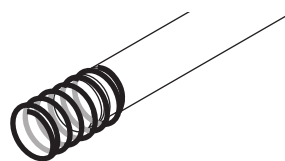

**Figure 1-11.** Shelf Channels & Side Ducts **Figure 1-12.** Channels and Slots
2. Install the side ducts with the tabs facing into the center of the chamber with their slots up. There are no right side or left side ducts, simply rotate one of them to fit the opposite side. Tilt the side ducts as they are placed into the chamber so the tops fit into the top air duct, then guide them into the vertical position. Figure 1-11 shows the side duct as it would be oriented for the right side of the chamber.
- Referring to Figure 1-11, note that there is no difference in the left and right shelf channels.
- Figure 1-11 shows one of the channels installed on the right side duct.